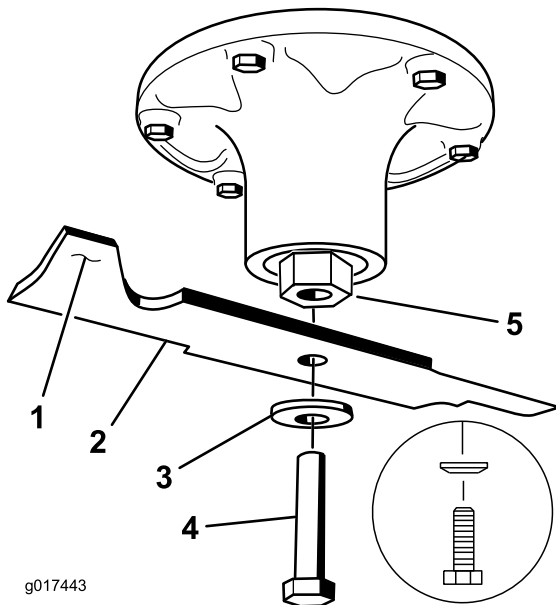

Figure 81
2. Remove the blade bolt, curved washer, and blade from the spindle shaft (Figure 81).